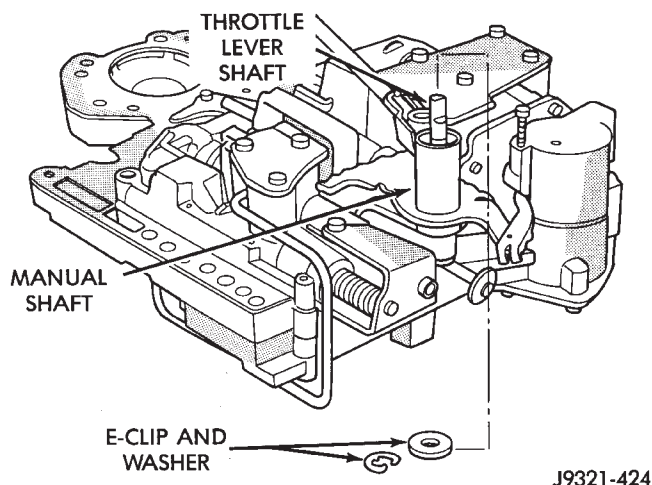

Fig. 73 Throttle Lever E-Clip And Washer
(14) Remove E-clip and washer that retains throttle lever shaft in manual lever (Fig. 73).